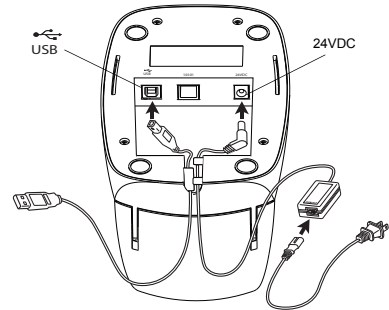

Figure 4
- 3 Plug the power cord into the power adapter. See Figure 4.